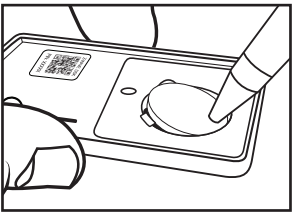

FIGURE 4
3. While securely holding the sensor on a flat surface, press down on the lower edge of the battery with a pen (see Figure 4). This should lift the upper edge of the battery.